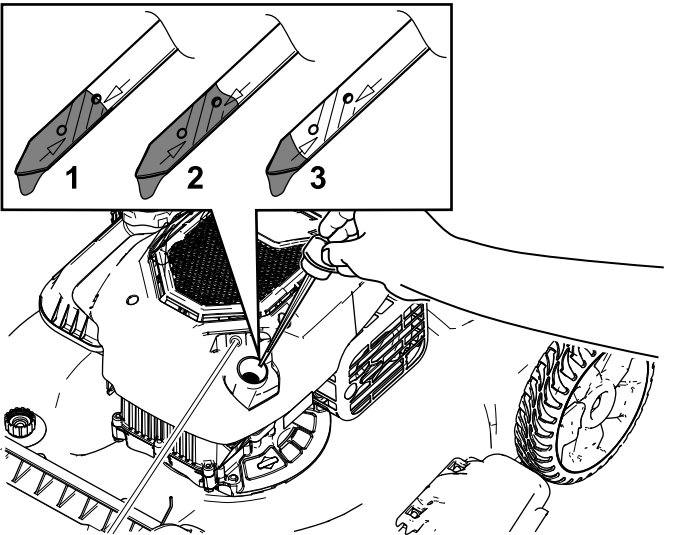

Figure 22
- 3. Remove the dipstick by rotating the cap counterclockwise and pulling it out (Figure 22).
10. Read the oil level on the dipstick (Figure 22).